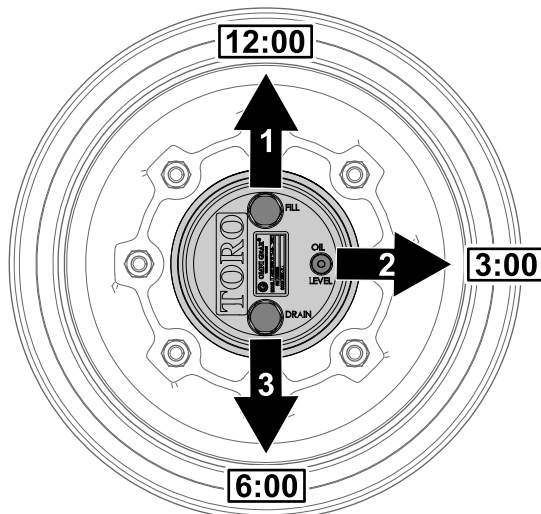

Figure 137
1. Park the machine on level surface, position the wheel so that the fill plug is at the 12 o'clock position, the check plug is at 3 o'clock position, and the drain plug is at the 6 o'clock position (Figure 137).
1. Park the machine on level surface, position the wheel so that the fill plug is at the 12 o'clock position, the check plug is at 3 o'clock position, and the drain plug is at the 6 o'clock position; refer to Figure 137 in Checking the Planetary Gear-Drive Lubricant (page 74).